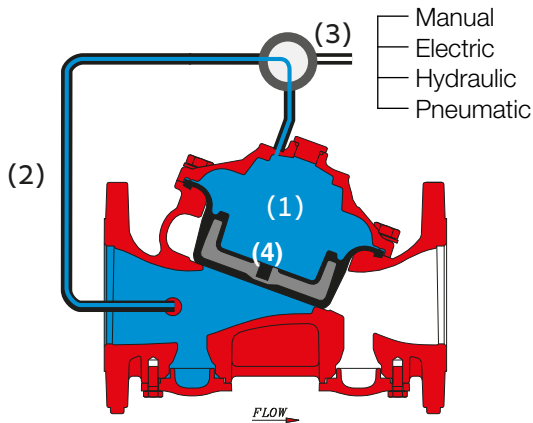
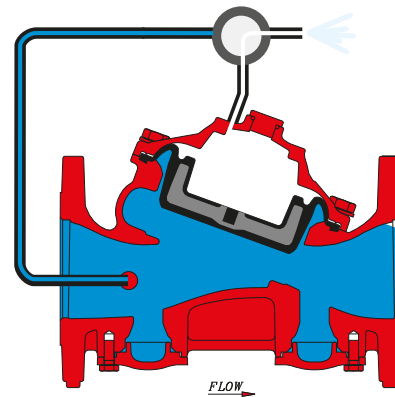

Fig 1a: Valve Closed (Static Condition)
Fig 1b: Valve Open (Flowing Condition)
In the closed position (Fig 1a): The water pressure supplied through the priming line (2) is trapped in the control chamber (1) by the operating valve (3) pressing the seal disc (4) down and thereby sealing the valve and keeping the system piping dry. In the open position (Fig 1b): Pressure is released from the control chamber by way of the operating valve (3), which can be activated either electrically, hydraulically, pneumatically or manually. With no pressure in the control chamber the seal disc will open and allow an unrestricted water flow through the valve into the system piping.